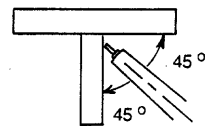

Figure 2.14
3. The electrode should be positioned at a 45° work angle and a 10° to 15° push angle to perform the weld. (See Figures 2.14 and 2.15.)